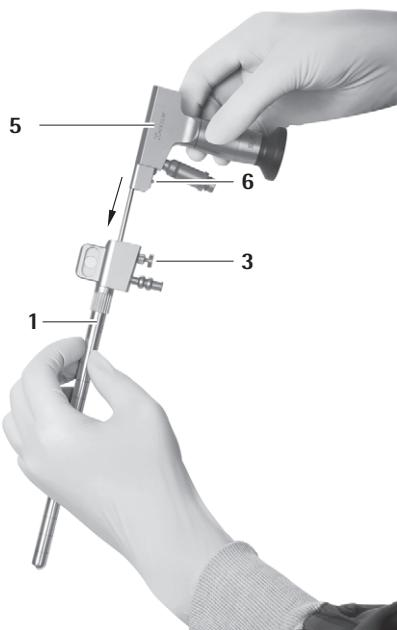
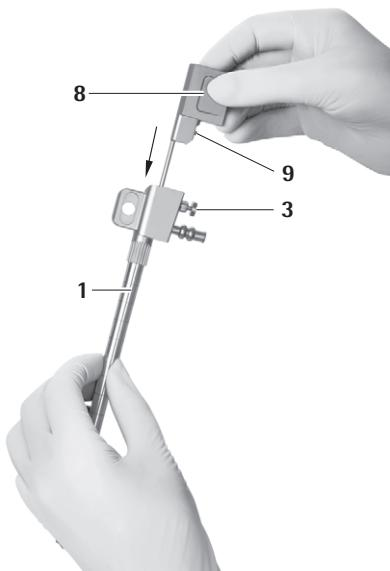

Fig. 14
Fig. 15
- ▶ making sure that the locking pin 6 of the endoscope 5 or locking pin 9 of the obturator for the optical channel 8 is on the same side as the release button 3 of the MINOP InVent trocar 1, see Fig. 14 and see Fig. 15.